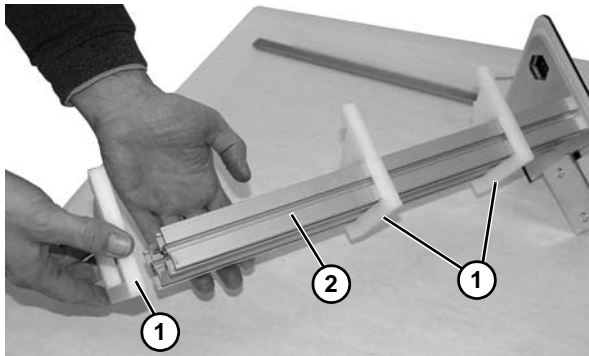

Figure 98
11. Remove gap filler plates (**Figure 98, item 1**) from crossmember (**Figure 98, item 2**).